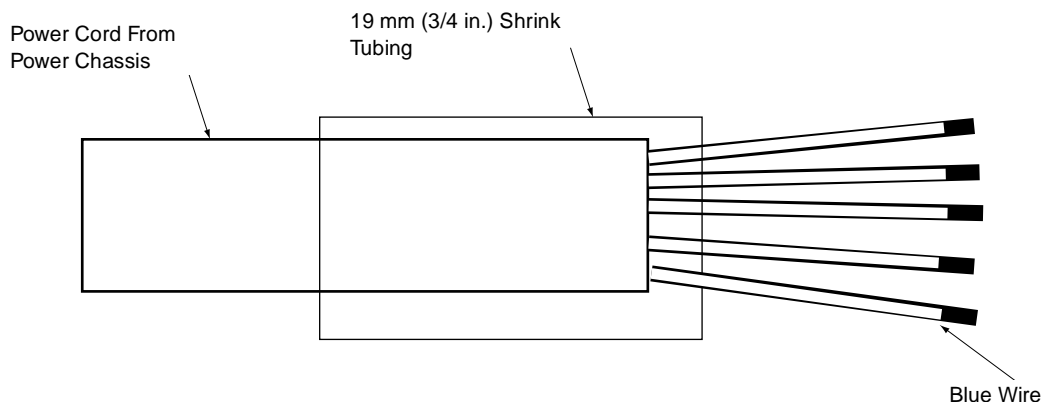

Figure 4-23. Insulating Blue Wire in Power Cord (380-415 VAC)
4. Remove and discard the 7 mm (1/4-inch) shrink tubing from the end of the blue wire in the power cord (see Figure 4-23).
5. Place the 19 mm (3/4-inch) piece of shrink tubing from the accessory kit over the end of the power cord. Use a heat gun to apply the shrink tubing (see Figure 4-23).